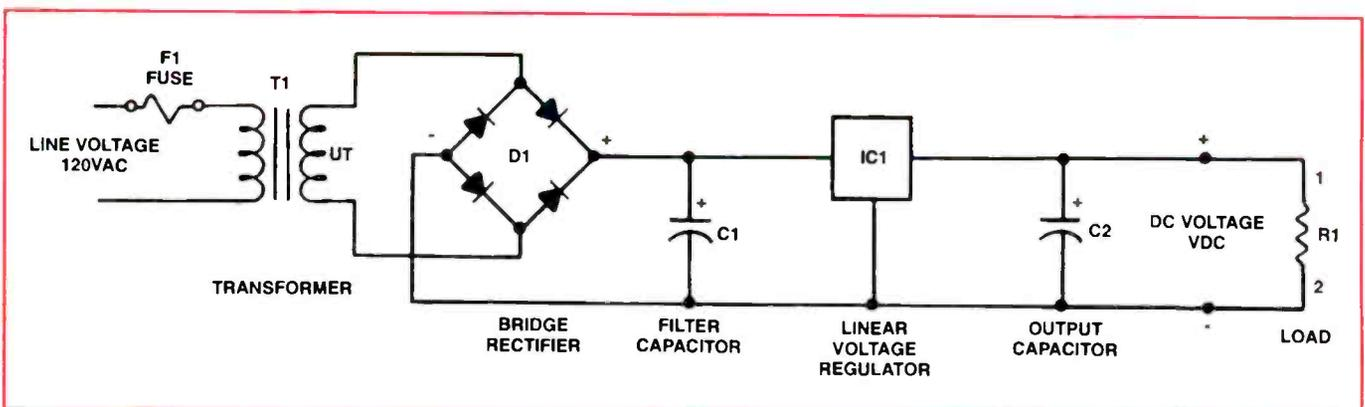
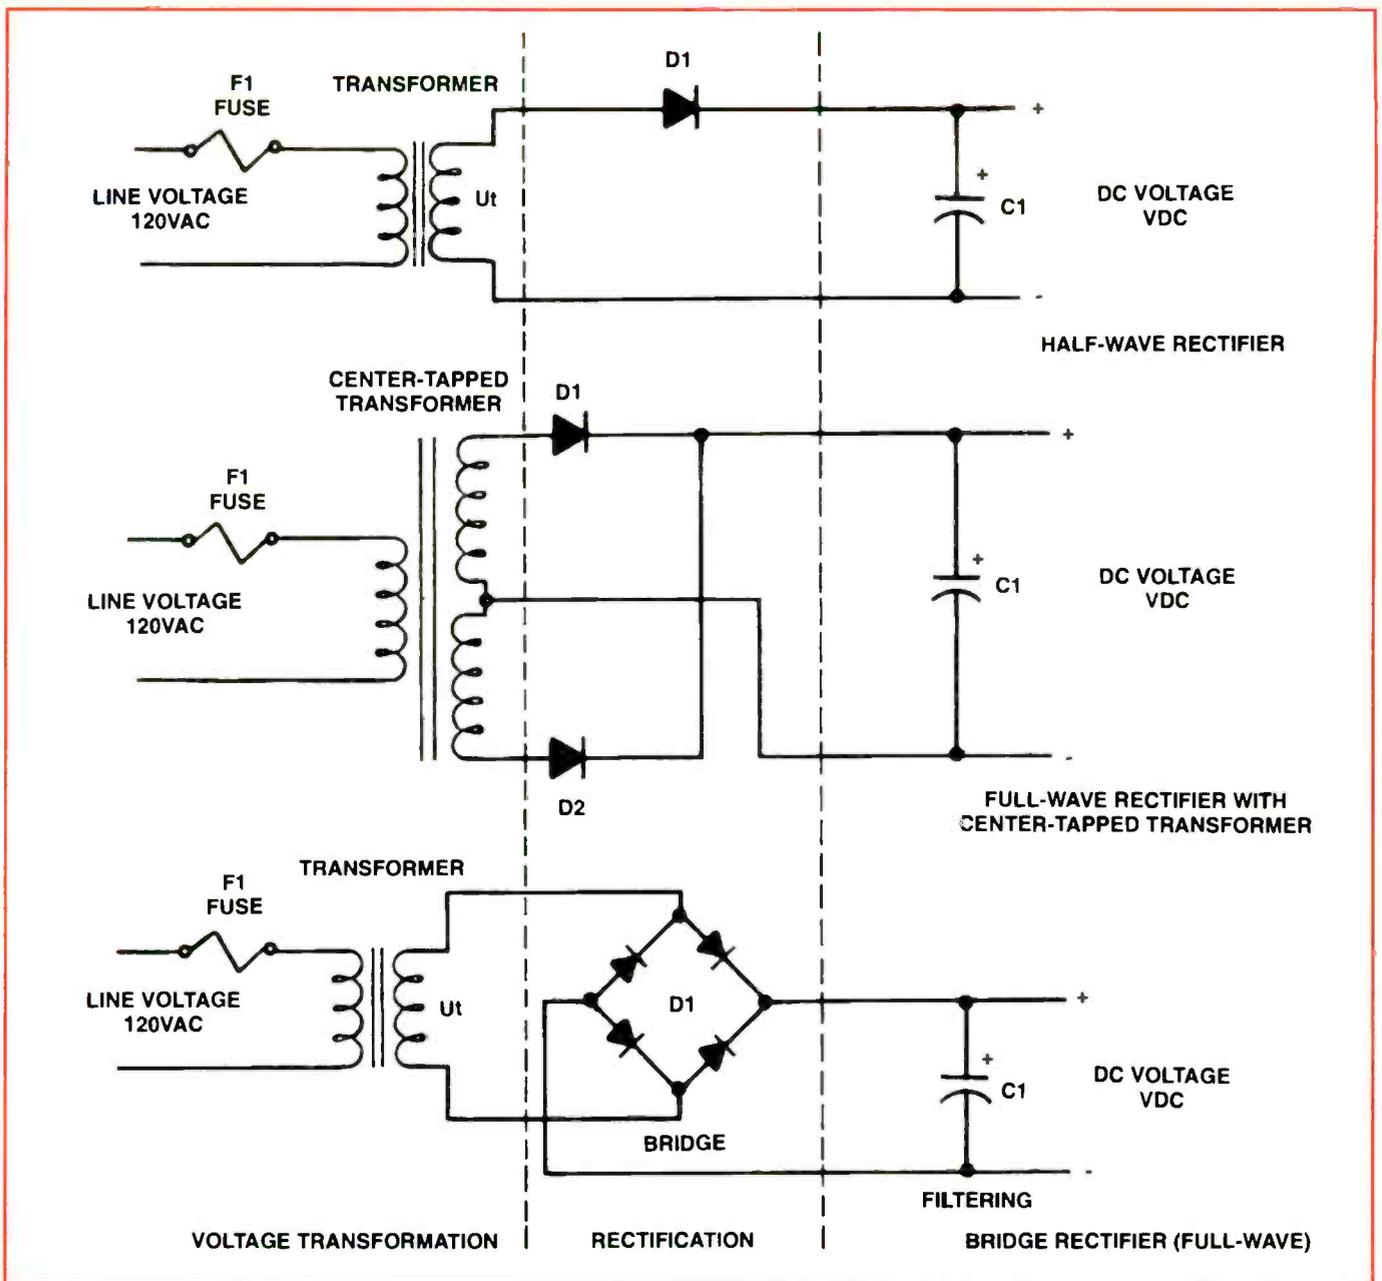

Figure 1. A typical linear power supply.
Figure 2. Several variations of the linear power supply have been commonly used in consumer electronics products.
Figure 1 is a linear power supply that incorporates the functions described.
- *Rectifier D1*: In the circuit of Figure 1 the rectification is performed by a bridge rectifier. The output voltage of the bridge rectifier is shown in Figure 2. The configuration of the rectifier in a given product may be different from the one shown here. For some applications it is appropriate to use a half-wave rectifier that consists of only one diode. However in most power supplies full-wave rectifiers are used because the full-wave rectifier is more energy efficient, and filtering of the rectified voltage is easier. The common circuits of rectifiers
- *Filter capacitor C1*: The filter capacitor C1, usually a large value electrolytic capacitor, must hold its charge between the half cycles of the rectified voltage and is charged out by short current pulses near the peak voltage ( $V_{PEAK}$ ) depending on the load ( $R1$ ). The resulting voltage at the output of the smoothing capacitor C1 is shown in Figure 2.